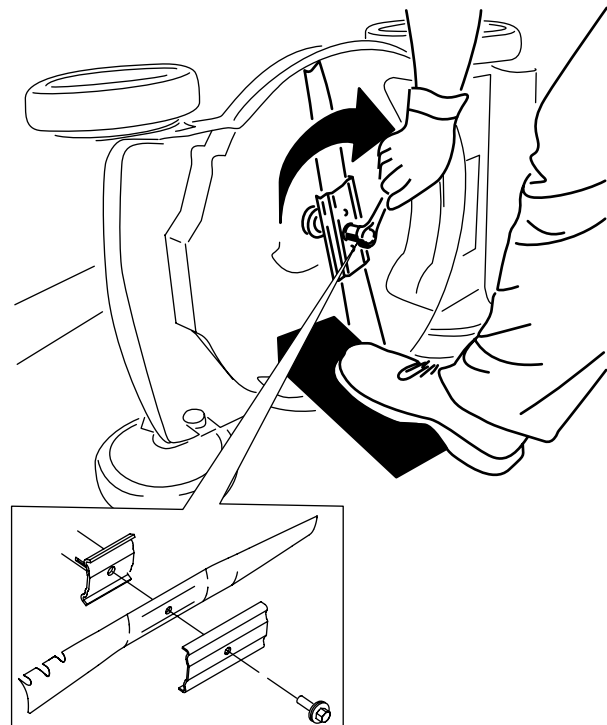

Figure 19
4. Install the new blade and all mounting hardware (Figure 19).